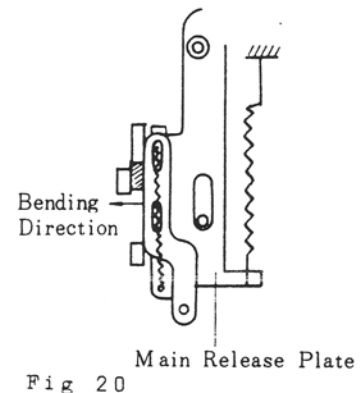

Fig 20
- (B) In case the main release plate does not return in self-timing, bend the projection of the main release plate in the arrow direction indicated in Fig. 20.